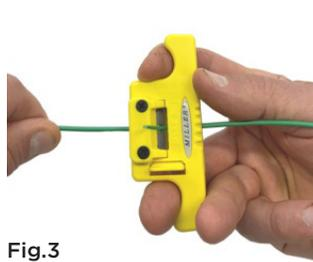

Fig.3
6. With a slow, even, and steady force, glide the tool down the tube in a smooth motion. The tool will shave the tube to expose the bare fibers. (*Fig.3*)